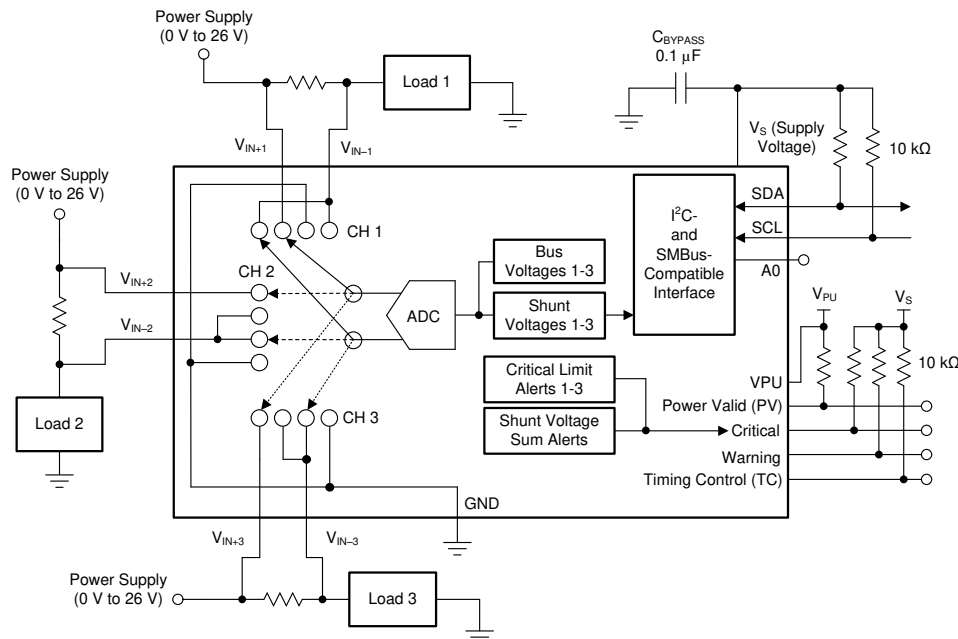

Figure 9-1. INA3221-Q1 as an Overcurrent Sensor
Figure 9-1 illustrates a typical INA3221-Q1 application circuit using all three channels. For best performance, use a 0.1- $\mu$ F ceramic capacitor for power-supply bypassing, placed as close as possible to the supply and ground pins. The digital pins (SCL, SDA, Critical, Warning, TC) are connected to supply through pull-up resistors. The power valid (PV) alert pin is connected to the VPU pin through a pull-up resistor to enable power-valid monitoring.